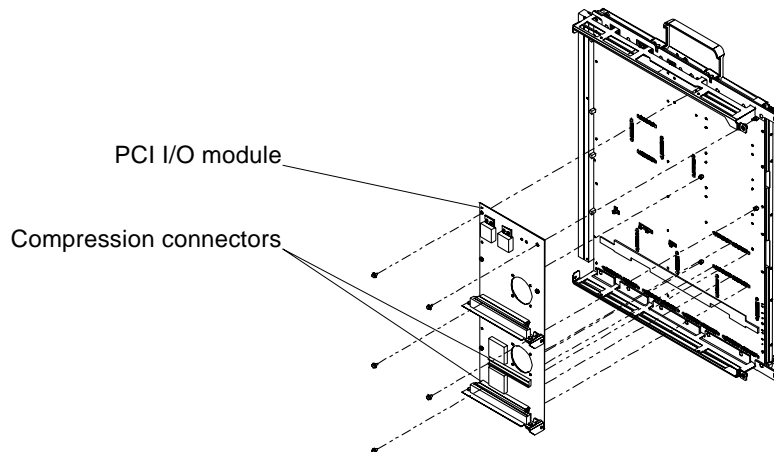

FIGURE 2-7 Replacing the PCI I/O Module
4. Remove the five Phillips screws from the I/O module (FIGURE 2-7).
5. Loosen the six captive 3/32-inch hex-head screws located on the compression connectors (FIGURE 2-7).
6. Remove the PCI I/O module (FIGURE 2-7).